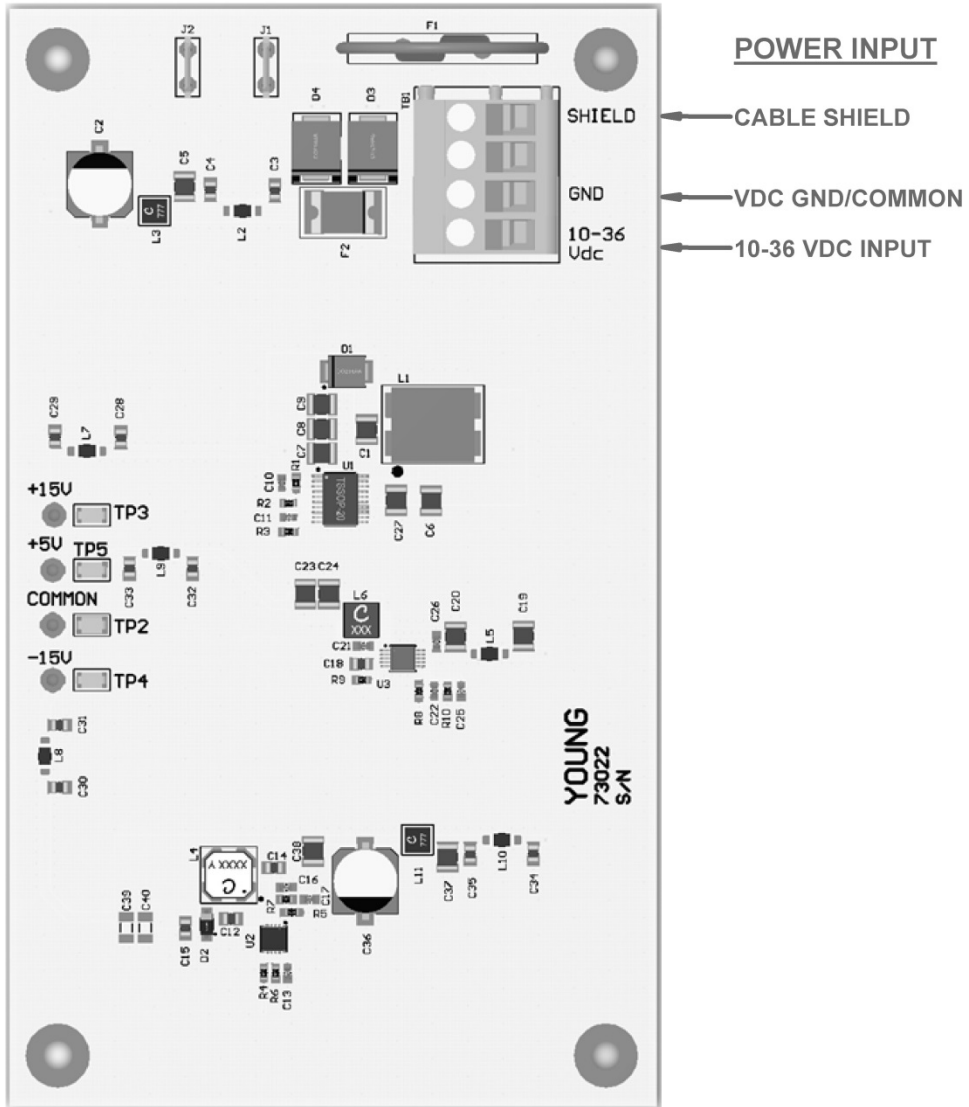

Figure 2.4.2-1 User DC Power Wiring
4. Strip ~6 mm (1/4") of insulation from each of the conductors and connect them to TB1 of the 73022 DC Power PCB Assy as shown per Table 2.4.2-1 and in Figure 2.4.2-1.